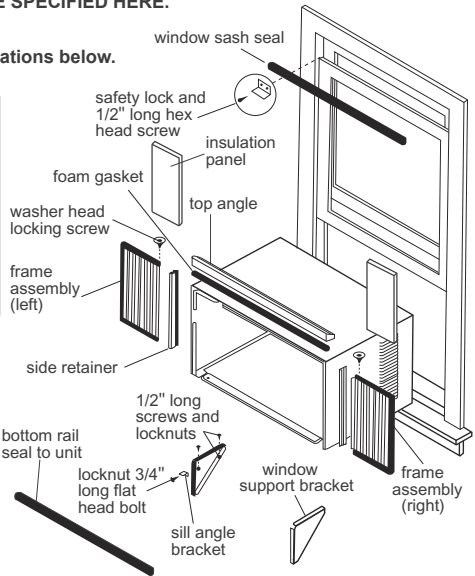

FIG.1
1. Check window opening size: the mounting parts furnished with this air conditioner are made to install in a wooden sill double-hung window. The standard parts are for window dimensions listed above. Open sash to a minimum of 19-1/4" (489mm). (FIG.1)
1. Pull down on front grille from upper edge. Lift front grille upwards and place to one side. (See FIG.1)